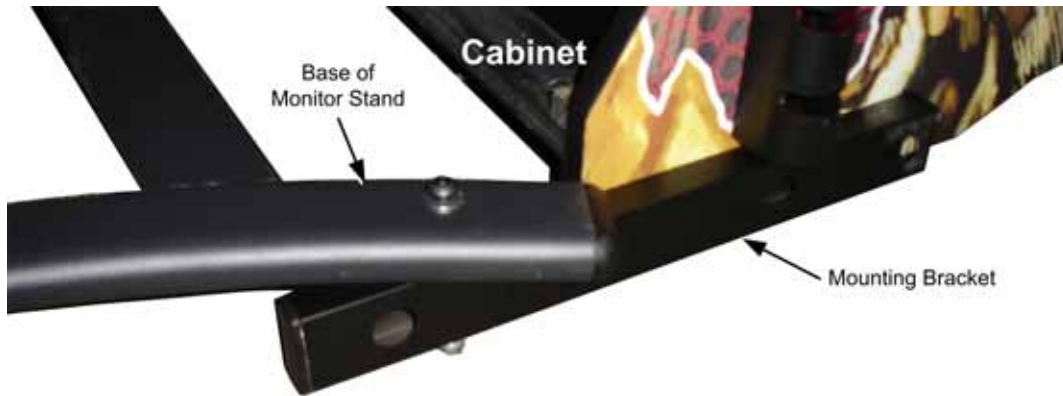
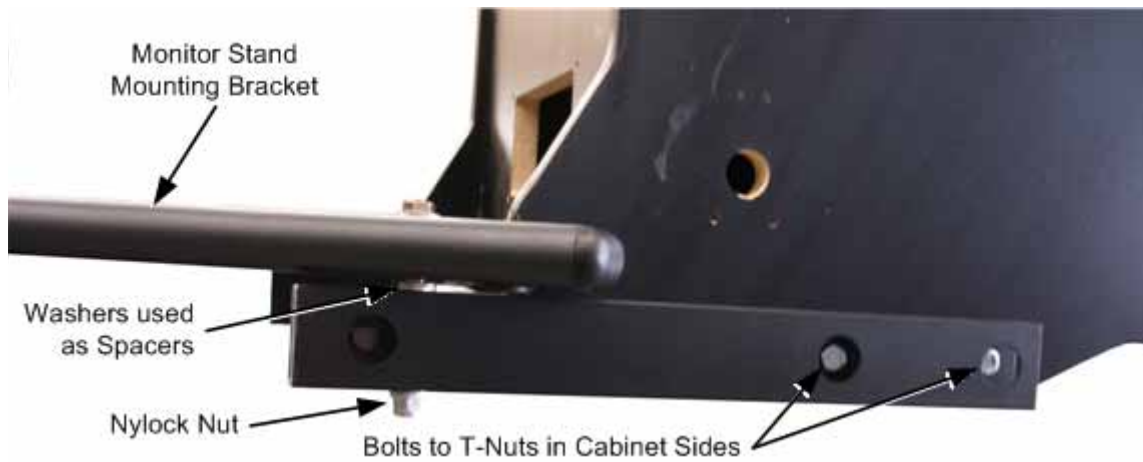

Figure 2. Cabinet and Mounting Bracket, Top View
Figure 3. Cabinet and Mounting Bracket, Side View
4. Place the stand in front of the cabinet so that each Mounting Bracket extends along the side of the cabinet as shown in Figure 2 and Figure 3.
5. Secure each Mounting Bracket to the cabinet with two (2) 2" bolts with lock washer as shown in Figure 3. The bolts pass through the holes in the bracket into T-nuts in the cabinet sides.